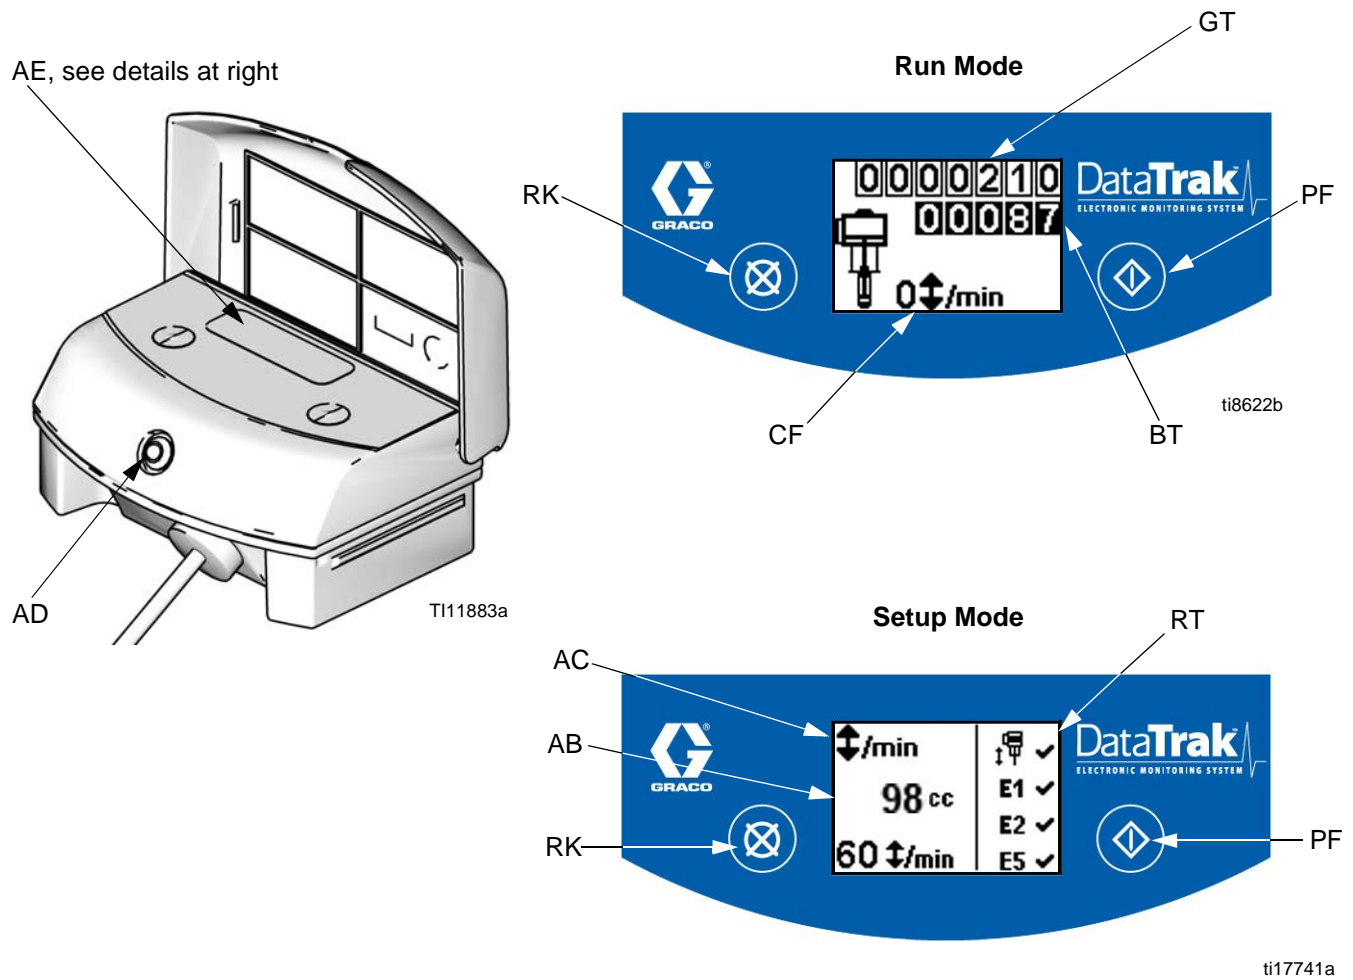

FIG. 4. DataTrak Controls and Indicators
Key for Fig. 4
1. See FIG. 4, page 33. Press and hold  for 5 seconds until Setup menu appears.
1. See FIG. 4, page 33. To enter Prime/Flush mode, press any key to wake up the display, then press . The Prime/Flush symbol will appear in the display and the LED will flash
2. While in Prime/Flush mode, the batch totalizer (BT) will not count. The grand totalizer (GT) continues to count.
See FIG. 4, page 33. The last digit of the batch totalizer (BT) represents tenths of gallons or liters. To reset the totalizer, press any key to wake up the display, then press and hold  for 3 seconds.
See FIG. 4, page 33. The display (AE) will turn off after 1 minute of inactivity in Run mode or 3 minutes in Setup mode. Press any key to wake up the display.
DataTrak can diagnose several problems with the pump. When the monitor detects a problem, the LED (AD, FIG. 4) will flash and a diagnostic code will appear on the display.